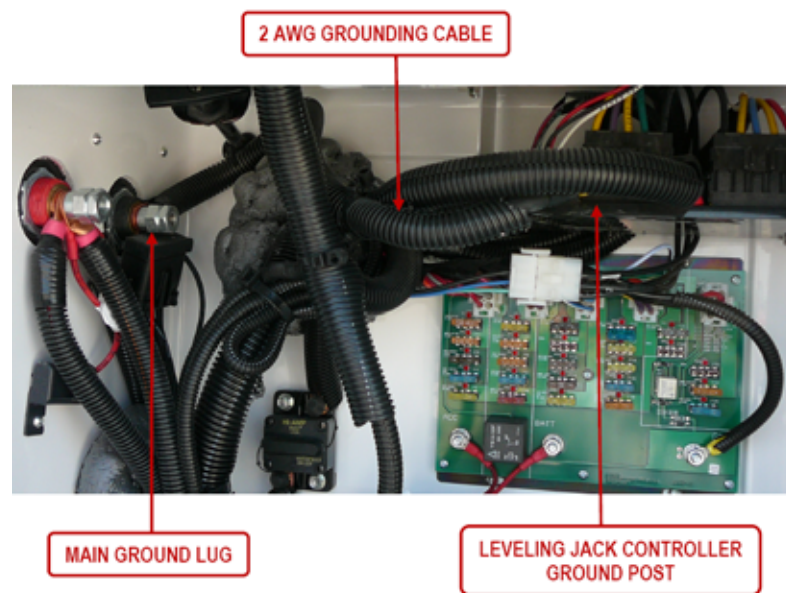

Figure 2
- Attach small ring terminal of 2 AWG grounding cable to the ground post of the leveling jack controller (Figure 2) and large ring terminal to the main ground lug.